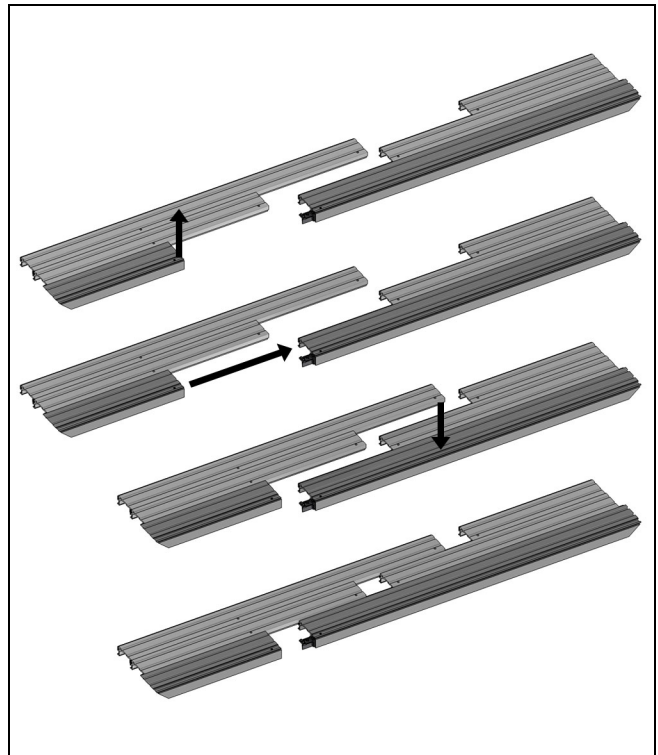

Figure 30
2. Lay the head jamb parts out on a flat clean and protected surface. See Figure 30.